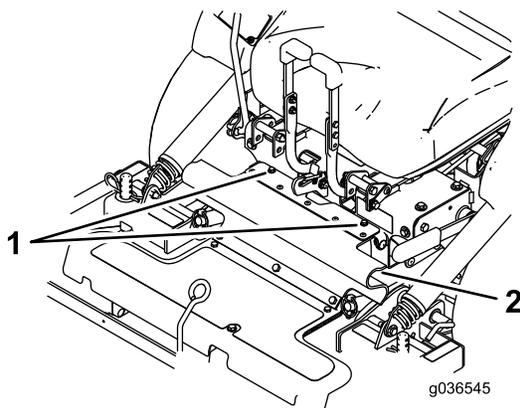

Figure 77
7. Loosen the bolts attached to the rubber guard (Figure 77).
7. Align the upper portion of the rubber guard and secure it with the attached bolts (Figure 77).